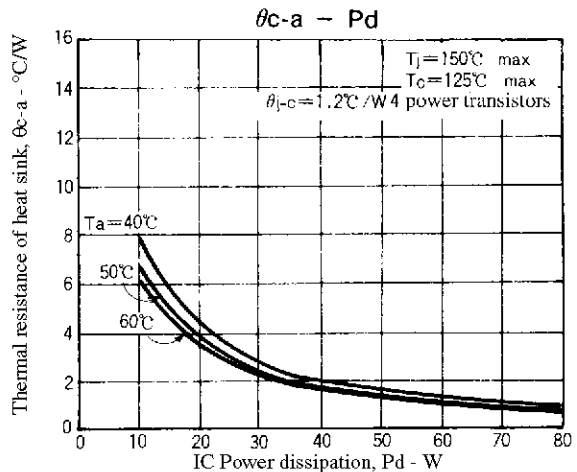

Figure 2. STK4048XI θc-a - Pd
Figure 2 shows the relation between Pd and θc-a given from (1) and (3) with Ta as a parameter.
The thermal resistance of a heat sink is obtained from Figure 2.